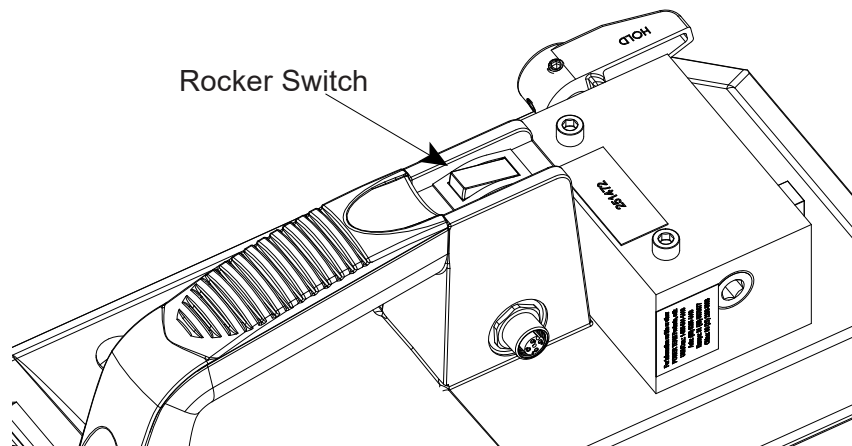

Fig. 5. Pump Operation by Rocker Switch
- **By Rocker Switch:** The default position is OFF. Press and hold the rocker switch to the ON position to start the pump, and release it to stop the pump from running. (Refer to figure 5).